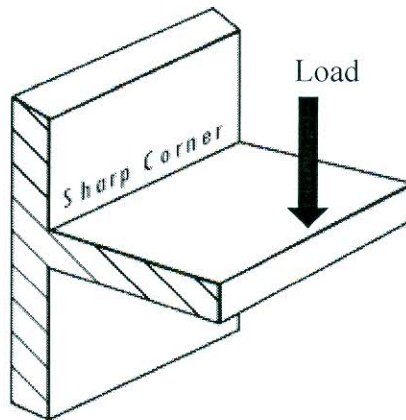

Figure 1 : Sharp corner with load
2. [a] A plastic product which has a sharp corner has been subjected to a certain load as shown in Figure 1. Discuss and sketch the deformation of the part (before and after) and how to minimize the deformation, respectively. Design justification factor must be included.